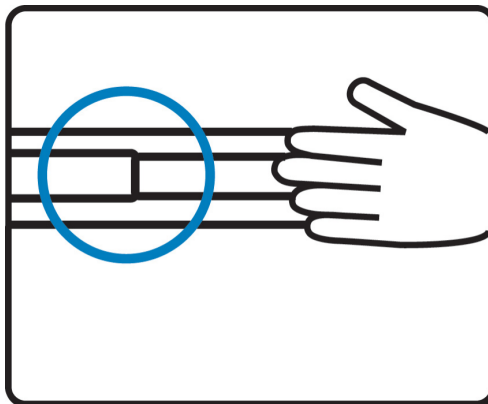

Figure 5-4. Be sure to keep your fingers away from the sliders.
- 3 Gently push the drawer slider all the way into the rack using the carry handle. Take care to keep your fingers away from the sliders. See Figure 5-4.